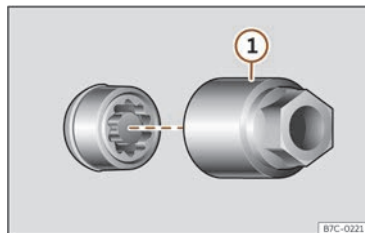

Fig. 166 Anti-theft wheel bolt with cap and adapter.
- Insert the special adapter >>> **Fig. 166 ①** (vehicle tools) >>> page 247) onto the anti-theft wheel bolt and push it on as far as it will go.